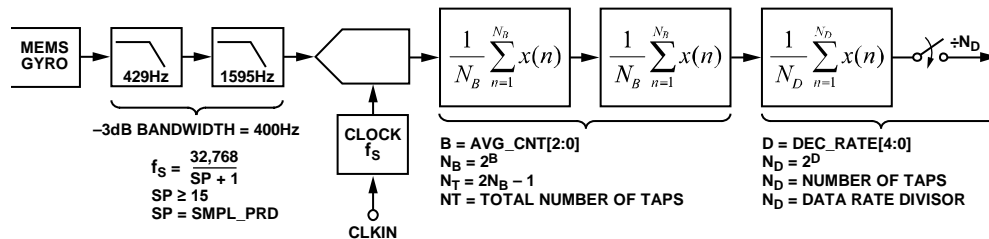

Figure 18. Sampling and Frequency Response Block Diagram
The GYRO_OUT2 register (see Table 11) captures the bit growth associated with the decimation and FIR filters (see Figure 18) using an MSB justified format. The bit growth starts with the MSB (GYRO_OUT2[15]), is equal to the decimation rate setting in DEC_RATE[4:0] (see Table 18), and grows in the LSB direction as the decimation rate increases. See Figure 14 for more details.
Figure 18 provides a block diagram for the sampling and digital filter stages inside of the ADIS16137. Table 15 provides a summary of registers for sample rate and filter control.
[15:0]	Clock setting bits; sets f_s in Figure 18
[2:0]	Binary; B variable in Figure 18; maximum = 110 (6)
The DEC_RATE register (see Table 18) provides user control for the final filter stage (see Figure 18), which averages and decimates the output data. For systems that value lower sample rates, this filter stage provides an opportunity to lower the sample rate while maintaining optimal bias stability performance. The -3 dB bandwidth of this filter stage is approximately one-half of the output data rate. For example, set DEC_RATE[7:0] = 0x04 (DIN = 0xA204) to reduce the sample rate by a factor of 16. When the factory default 2048 SPS sample rate is used, this decimation setting reduces the output data rate to 128 SPS and the sensor bandwidth to approximately 64 Hz.
[4:0]	Binary; D variable in Figure 18; maximum = 10000 (binary) = 16 (decimal)